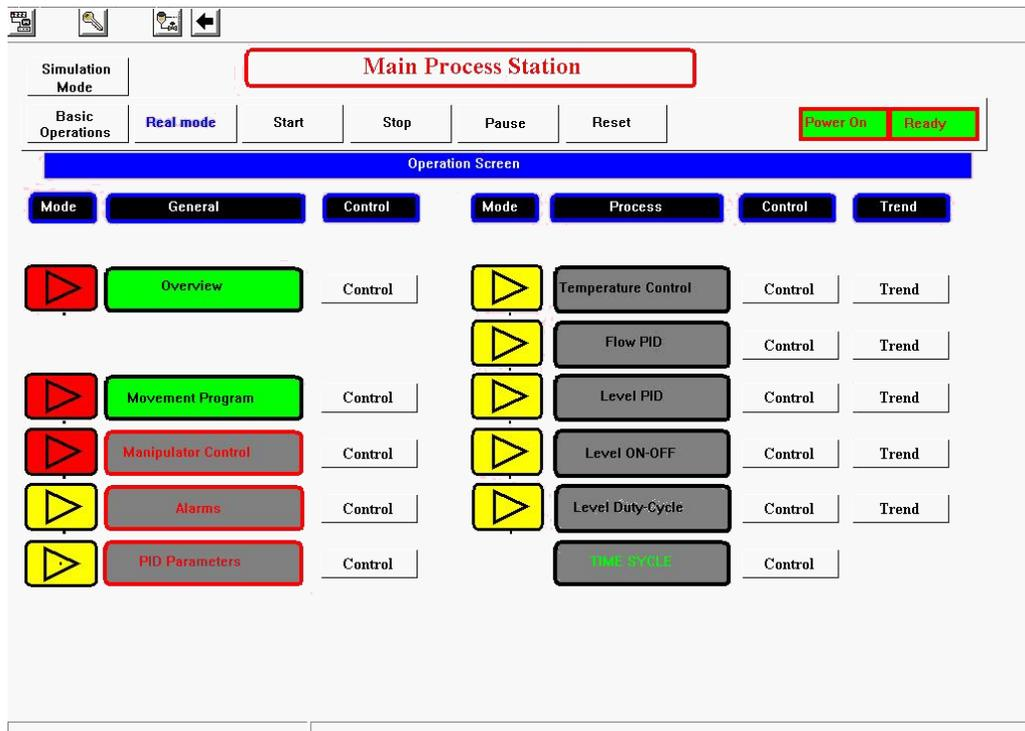

Figure 166: Main Process Station
8. Click **Restart**. The Main Process Station window (shown in Figure 166: Main Process Station) is displayed in the background. Click **Close** to close the Vuniq Application Manager window.
3. Select **Operator Screens**. The Main Process Station window is displayed, as shown in, Figure 166: Main Process Station.
8. Click the  icon to return to the Main Process Station window (shown in Figure 166: Main Process Station).